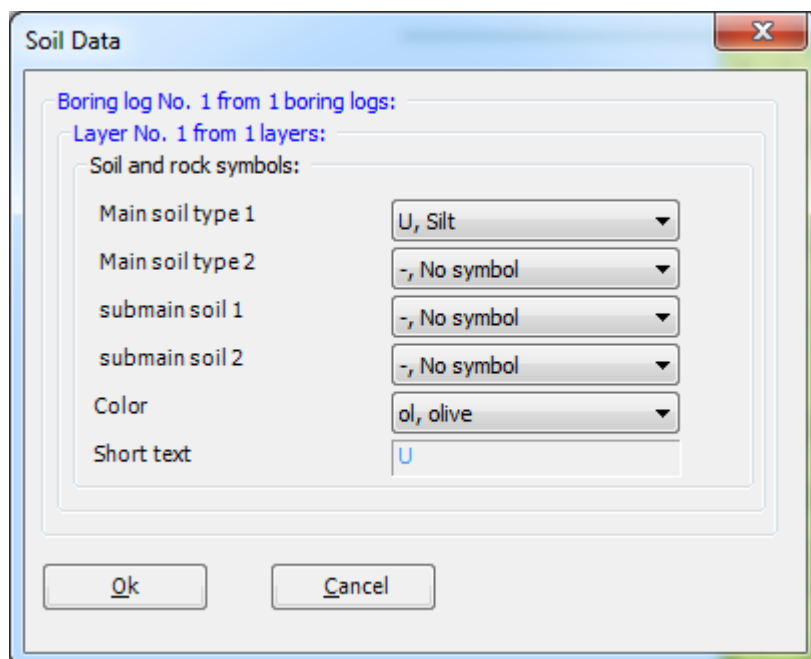

Figure 11.23 "Soil and rock symbols" dialog box
- Double-click on the soil symbol of the soil layer. The corresponding dialog box appears allowing you to modify the soil symbols of that layer, Figure 11.23
- Select "U, Silt" as the soil type in the "Main soil type 1" combo box in the dialog group box "Soil and rock symbols" in Figure 11.23. The color of the silt and a short text "U" according to the German specification code DIN 4023 will be automatically created